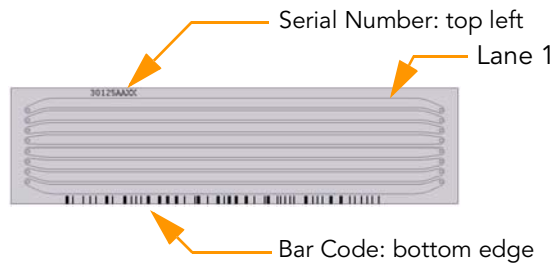

Figure 33 Positioning the Flow Cell
4. Place the flow cell on the thermal block of the Cluster Station with the ports facing up. The bar code should be on the bottom edge, and the alphanumeric serial number on the upper edge, left side (Figure 33).